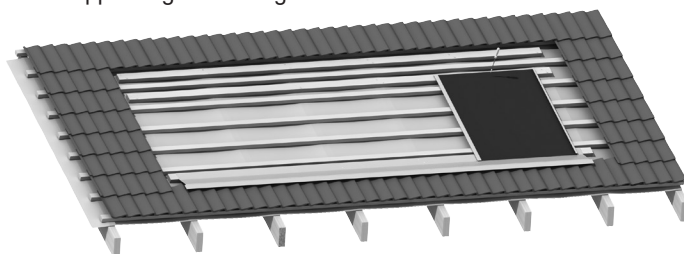

Figure 6-14a: Installation of First Tray ('landscape' installations)
Fix to middle batten (02) using one of the self-drilling sealing screws provided in the installation kit at the centre of the upper edge – see Figure 6-14a.